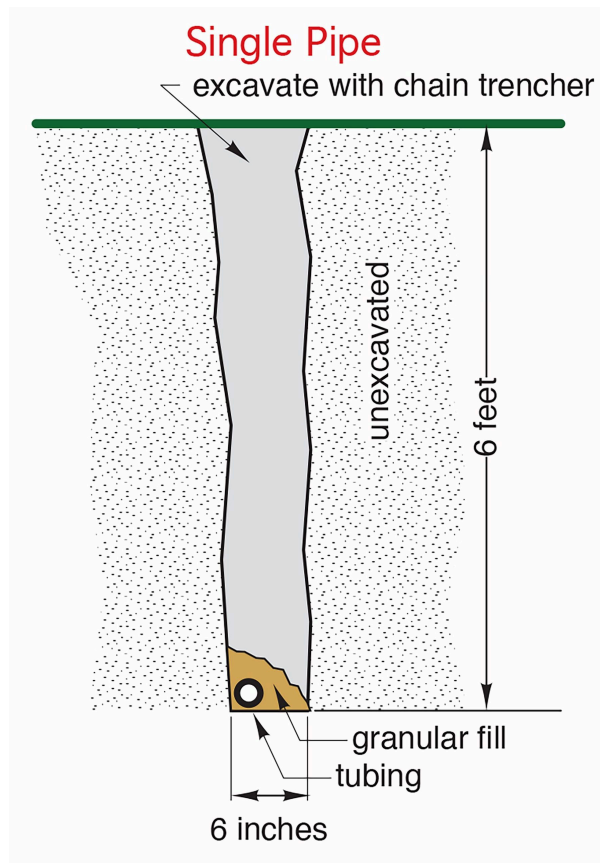

Figure 1 Single pipe in trench
- Figure 1 Heating capacity for a water-to-water heat pump © Caleffi Hydronic Solutions. Used with permission.
Figures 1 through 4 below show pipes installed in trenches created either by chain trenchers or backhoe-type excavators. Ground conditions typically determine which of the two are used; if the ground has soils with rocks that are no larger than fist-sized, the chain trenchers can be used. A "Ditch Witch®" is a well-known example of this type of tool. Trenches can be narrow, as shown in Figures 1 and 2, and therefore use less area for the system piping, with up to two pipes per trench. The narrow trench and its spoils will occupy less ground area before backfilling.